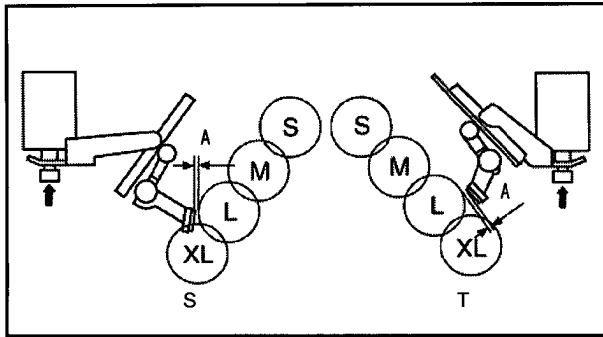

Fig.4-19-2
2. Confirm that the gap (A) between brake pad and reel is more than 0.2mm as shown in figure 4-19-2.
3. If the gap (A) is out of specification, loosen the 2 screws (A) and shift the brake solenoid so that the gap (A) is within specification. After the adjustment, tighten the screws (A)
4. Make the reel position in S and L cassette positions, and confirm that the gap (A) is more than 0.2mm at each reel position as shown in figures 4-19-2 and 4-19-3.
1. The position adjustment can be performed the same procedures as the Supply Reel Table side (Refer to the paragraph 4-19 and Fig. 4-19-2)